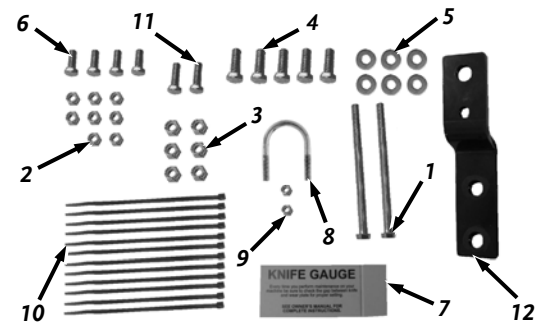

Figure 3
- Hardware Package (**Figure 3 and Table on next page**)